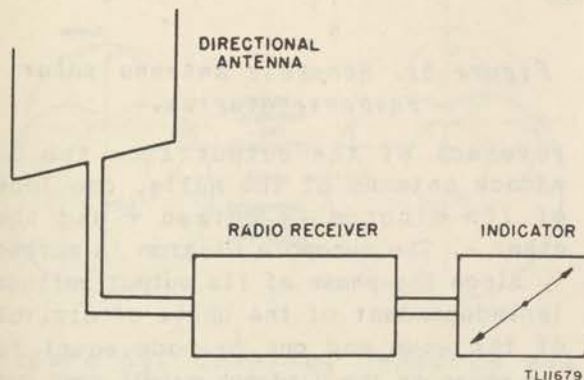

Figure 60. Elementary direction finder.
a. General. A radio direction finding system consists essentially of a directional antenna system, a sensitive radio receiver, and a suitable indicating device (fig. 60). The actual determination of the direction of arrival of the radio signal is accomplished by the antenna system. The radio receiver detects and amplifies the antenna voltages, and the indicator interprets the results for the human senses. The principle involved in determining the location of the radio transmitter is to find the direction of arrival of the re-